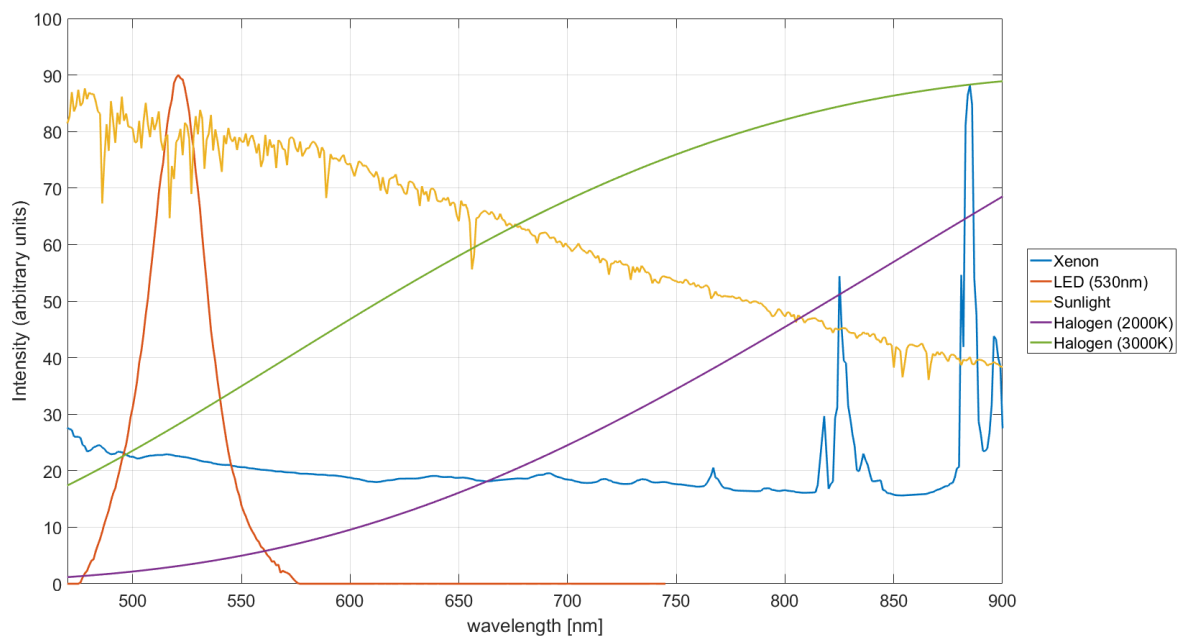
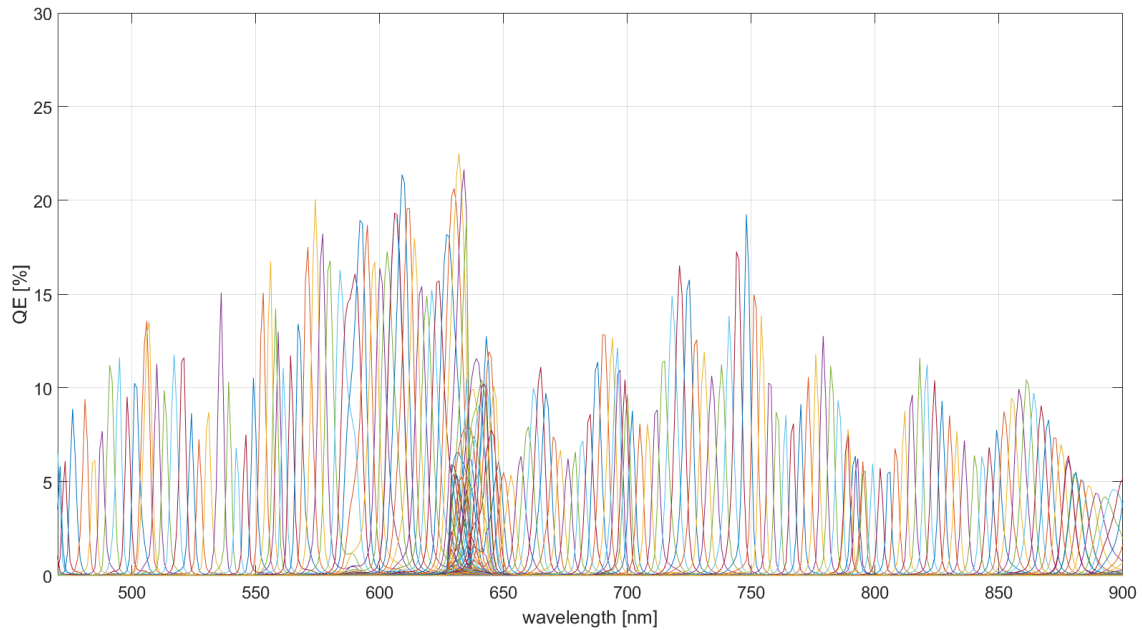
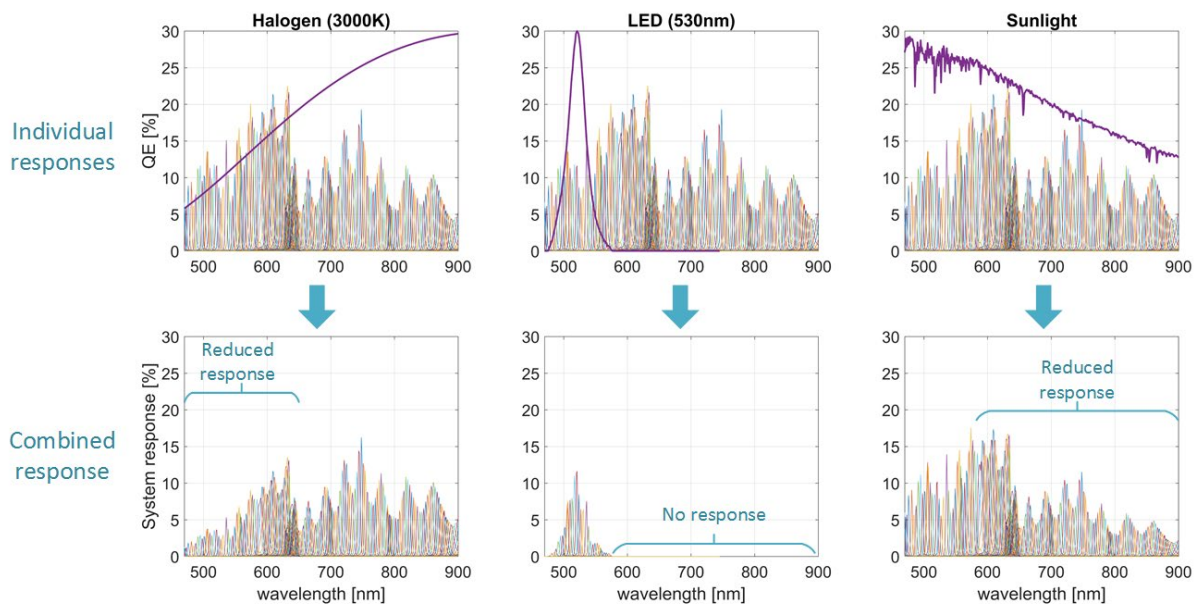

Figure 6 Spectral content of different light sources
Figure 7 Responses of different spectral bands of the HSI sensor obtained under ideal illumination conditions
Figure 8 Illustration of impact of different illumination sources on overall spectral response of the system
Illumination is a critical factor in hyperspectral imaging. Different sources of illumination have different intensity levels at different wavelengths, as shown in Figure 6. The choice of illumination will significantly impact the overall spectral response of the imaging system. Figure 7 shows the spectral response of different spectral bands in the HSI sensor. These responses have been obtained under ideal lab condition illumination. Figure 8 illustrates the impact of three different illumination sources (halogen, LED and sunlight). It can be seen that the spectral response of the illumination source influences the overall spectral response of the HSI sensor. Thus, it is important to take into account the spectral property of illumination used in the system based on application requirements.
- ❶ The evaluation kit includes halogen lamps as a standard configuration. It can be seen from Figure 8 that halogen based illumination has lower SNR in the blue color range. Thus, if your application requires higher SNR in the blue color range then we recommend you to contact Imec HSI support to help you with illumination customizations.
- ❶ We are currently qualifying multi LED based illumination solution which gives the user the ability to tune the spectral content of the illumination specific to application needs. Please contact imec HSI support for further information.